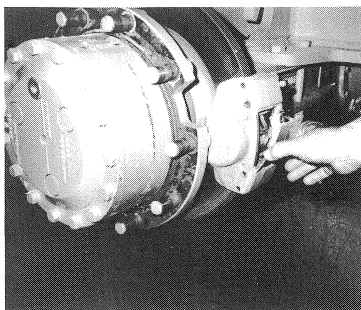

Fig. 54
- (4) Remove locking spring (Fig. 54) and expel lower locking pin by means of the drift.